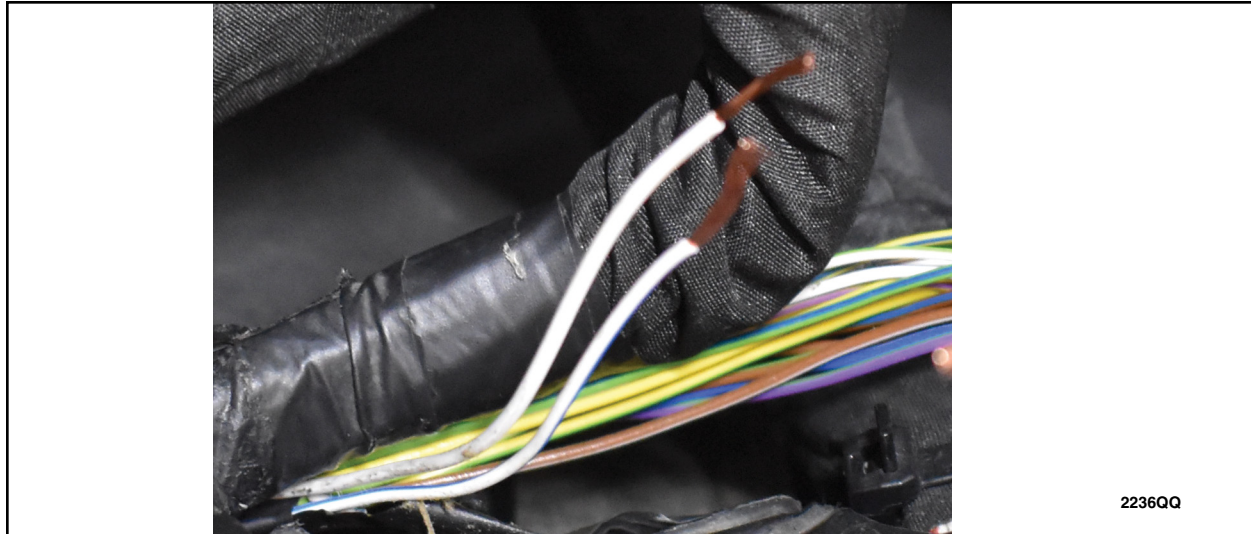

FIGURE 48
58. Strip 1" of insulation from the white/blue wire and the white wire, and terminal end. Put dual wall heat shrink tubing over white/blue wire and white wire. See Figure 48.